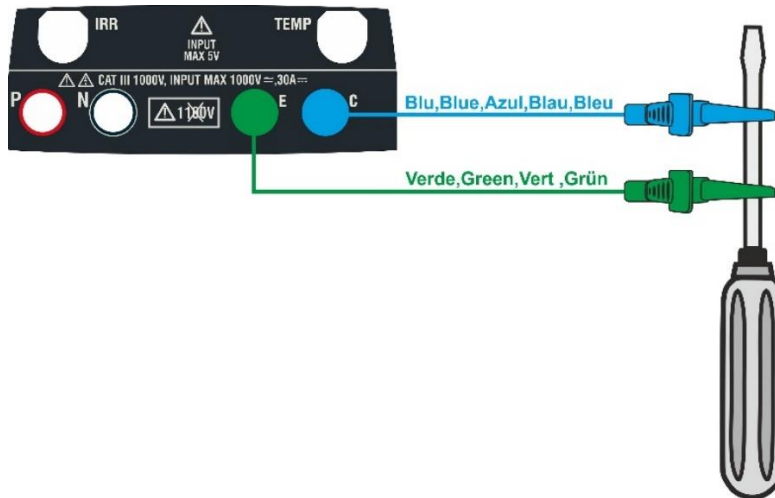

Fig. 5: Compensation of the measuring cables resistance
2. Connect the measuring cables to each other as shown in Fig. 5.